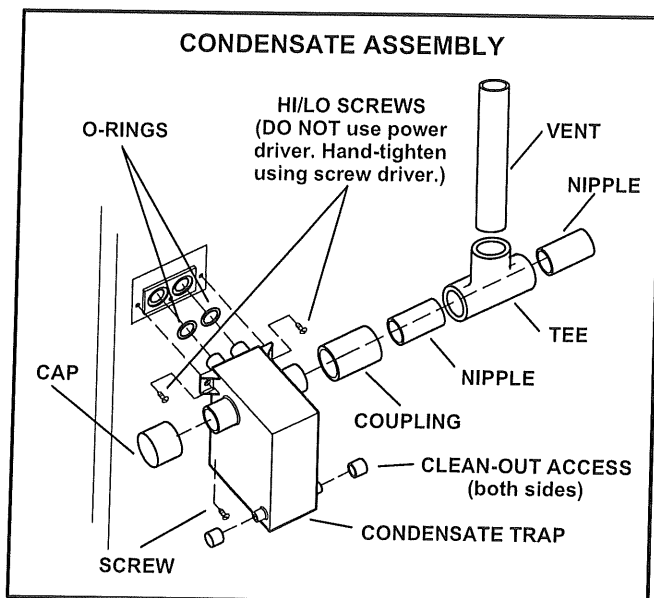

FIGURE 48
- 2 - Install condensate trap onto the condensate collar. Use provided HI/LO screws to secure two upper flanges of the trap to the collar. Use provided sheet metal screw to secure bottom trap flange to side of unit. See figure 48.